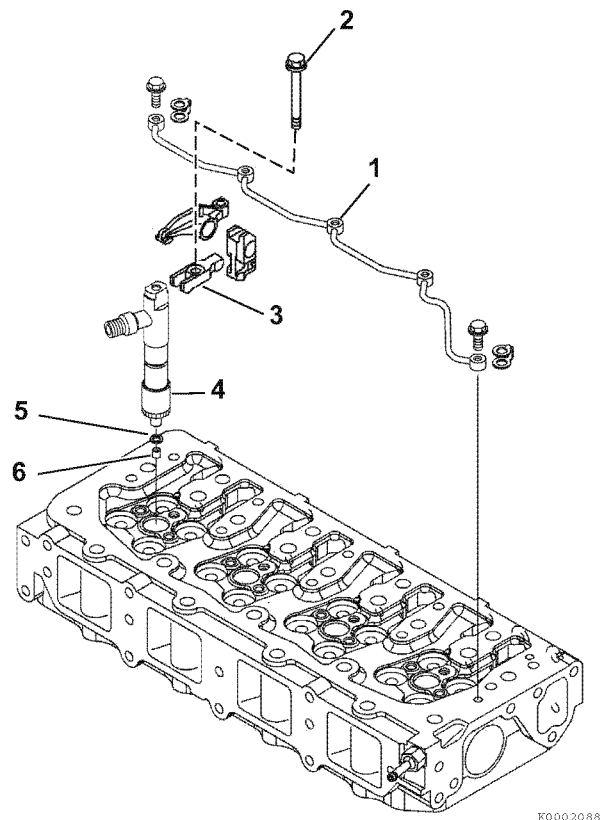

Figure 7-53
3. Remove the injector return line (1, **Figure 7-53**). Be careful not to bend the line.
4. Remove the fuel injector retainer bolts (2, **Figure 7-53**). Lift the injector retainer (3, **Figure 7-53**) away from injector.
5. Remove the fuel injector (4, **Figure 7-53**) from the cylinder head.
6. Remove the injector nozzle protector (5, **Figure 7-53**) and seat (6, **Figure 7-53**) from the cylinder head. Discard both items.